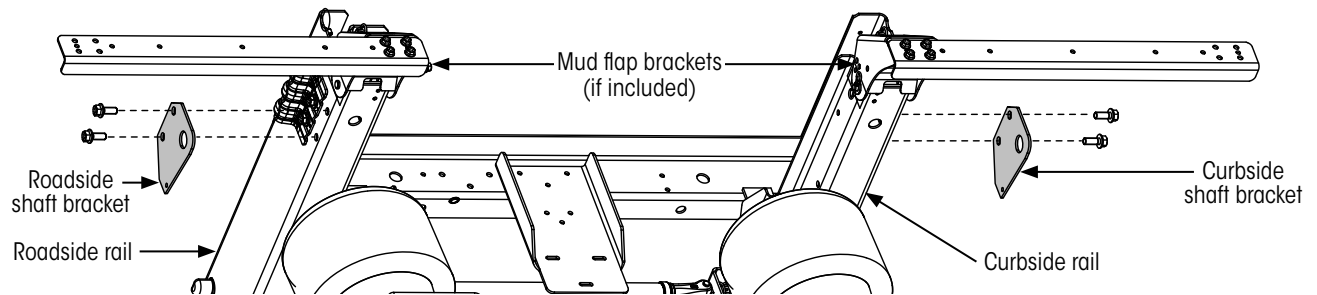

Figure 9: Slider shaft bracket installation
1. Install roadside and curbside shaft brackets (Figure 9) using 1/2-inch flange bolts provided with the kit. Loosely install bolts to allow brackets to move freely during the next step.